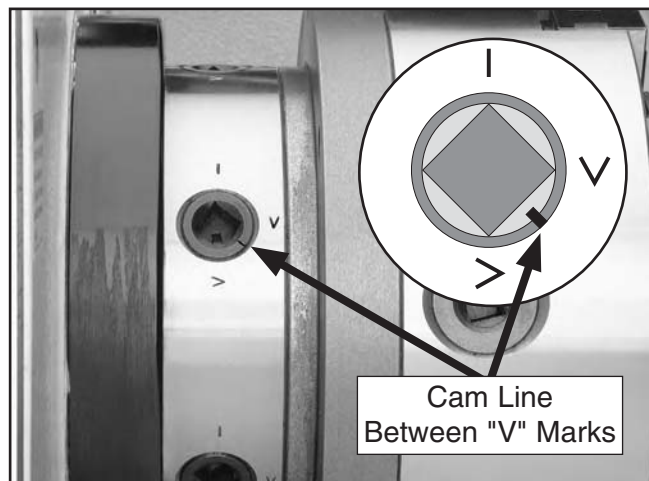

Figure 42. Camlock fully tightened with the cam line between the "V" marks.
9. Rotate the camlock clockwise that you started with in **Step 7** until the cam line is half-way between the "V" marks, as shown in **Figure 42**.